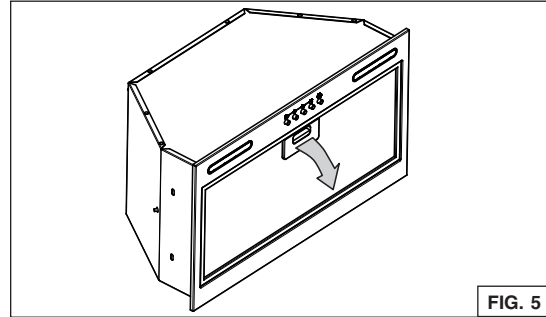

FIG. 5
1. Remove the grease filter by pushing down on its latch tab and tilting the filter downward (Fig. 5). Set aside the filter.